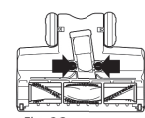
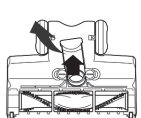

Fig. 26
Fig. 27
- Squeeze tabs together and pull up to expose the airway. (Fig. 26, Fig. 27)